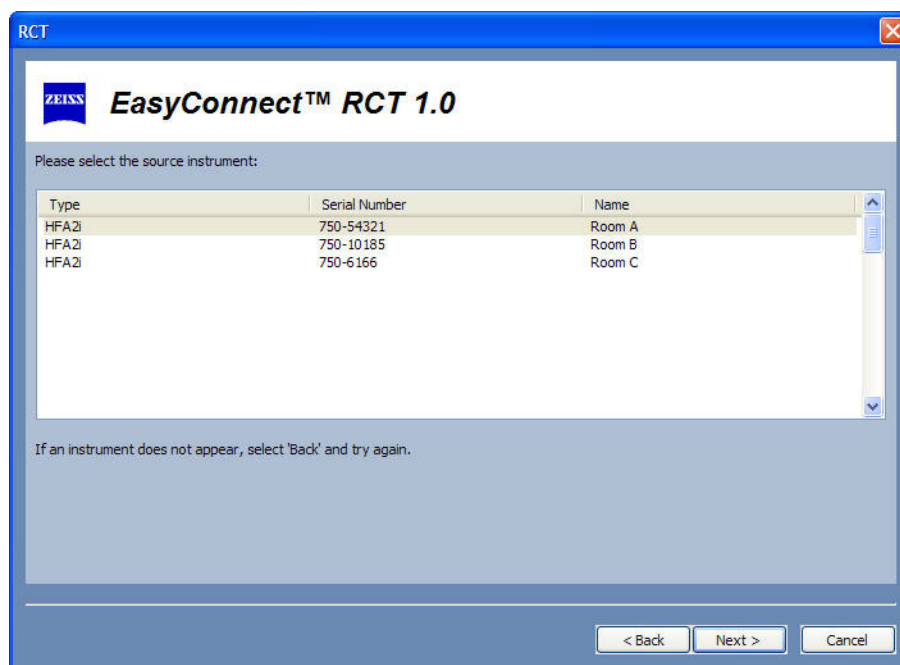

Figure G.16 Select the Source Networked HFA Instrument to Copy
- 2 A list of all networked HFA II-/instruments will be displayed (Figure G.16). The first instrument is selected by default. Select the source instrument you want to copy from by clicking on it and then select NEXT to continue.